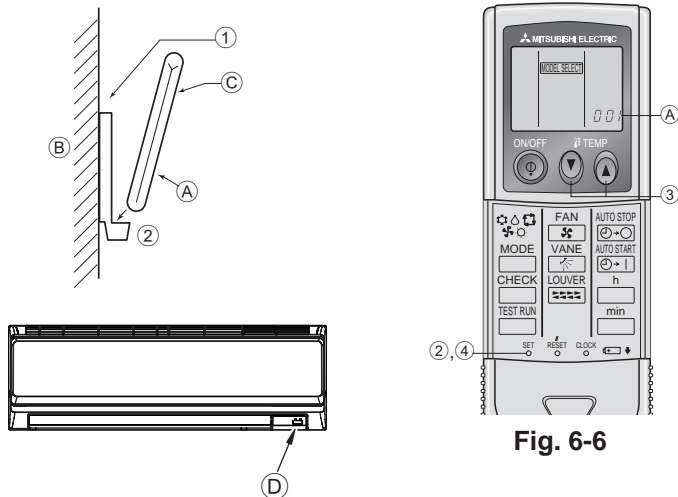
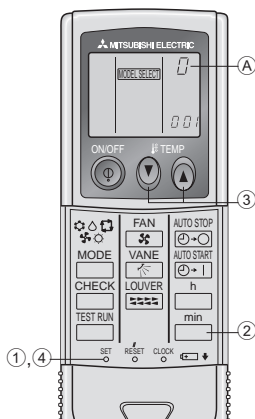

Fig. 6-5
Fig. 6-6
2) Installation method (Fig. 6-5)
- ① Attach the remote controller holder to the desired location using two tapping screws.
- (A) Remote controller
- (B) Wall
- (C) Display panel
- (D) Receiver
3) Setting (Fig. 6-6)
- ① Insert batteries.
- ② Press the SET button with something sharp at the end. **MODEL SELECT** blinks and Model No. is lighted.
- ③ Press the temp \uparrow/\downarrow button to set the Model No.
- ④ Press the SET button with something sharp at the end. **MODEL SELECT** and Model No. are lighted for three seconds, then turned off.